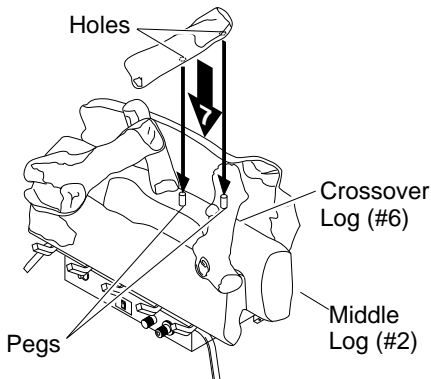

Figure 32 - Installing Crossover Log (#7) to Model CCL3930NR Only
7. For CCL3930NR only, locate holes on the bottom of crossover log (#7). Slide onto the pegs located in crossover log (#6) and middle log (#2). See Figure 32, page 15.